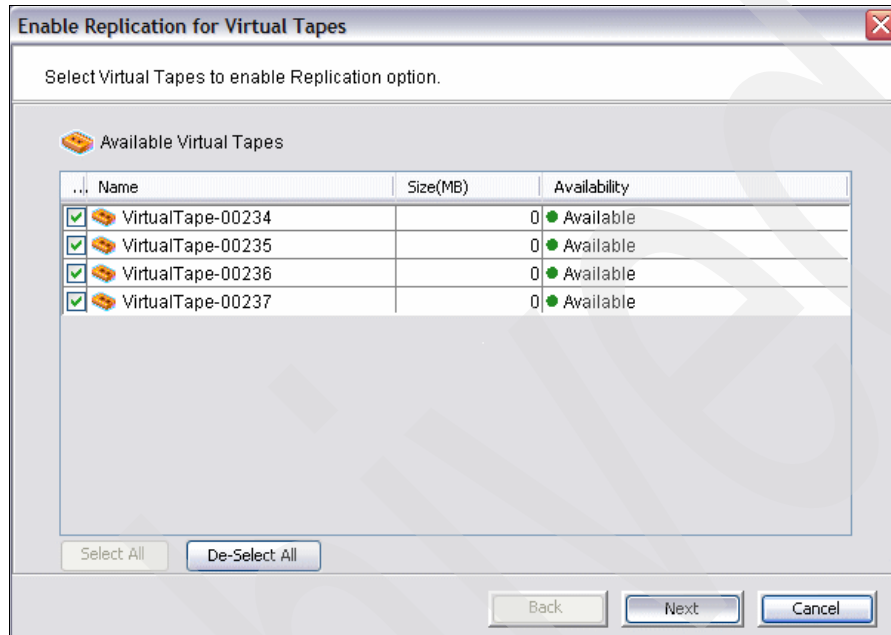

Figure 7-10 Select tapes for replication
2. Replication is based on the virtual tape volume. In the Select Virtual Tapes to enable Replication option panel (Figure 7-10), select the tapes that you want to replicate. We selected all available volumes. Click **Next**.